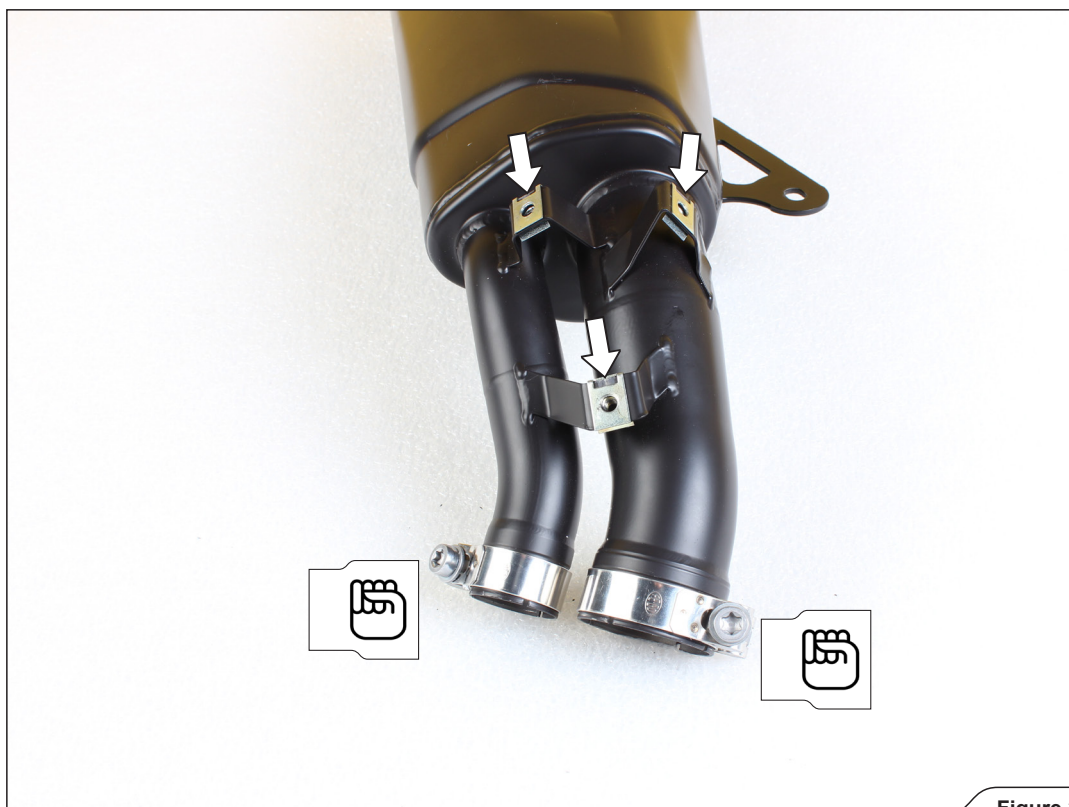

Figure 2
1. Install the clamps and press-on nuts from Akrapovič installation kit onto the muffler, as shown (**Figure 2**).